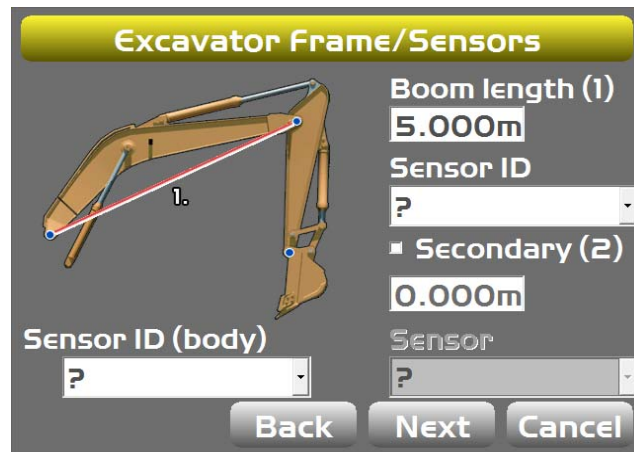

Figure 22: Select Body and Boom Sensor ID
8. Tap **Next** to navigate to the **Excavator Frame/Sensor** screen (Figure 22).